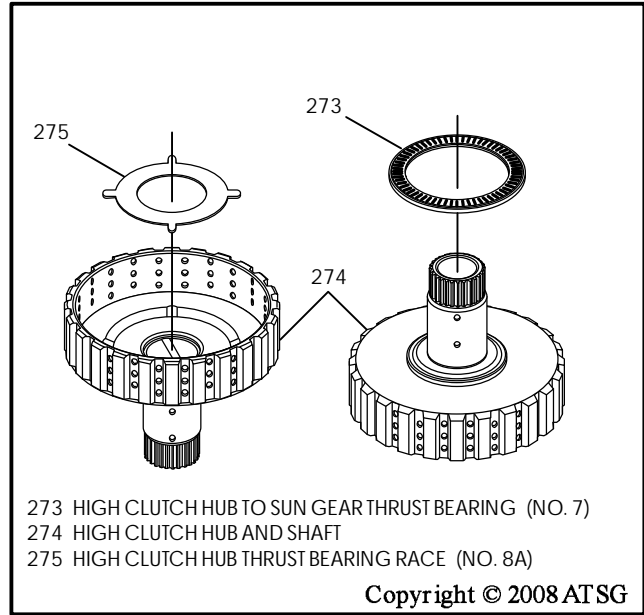

Figure 114
13. Install number 8A thrust bearing race onto the high clutch hub, as shown in Figure 114, and retain with small amount of Trans-Jel®.
14. Install number 7 thrust bearing onto back side of high clutch hub, as shown in Figure 114, and retain with small amount of Trans-Jel®.